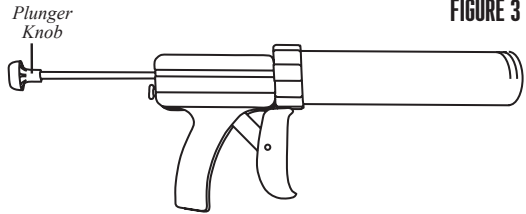

FIGURE 3
4. Align threads of the Aluminum Tube to the open end of the Handle Assembly, turn clockwise until secured in place (**Figure 3**).